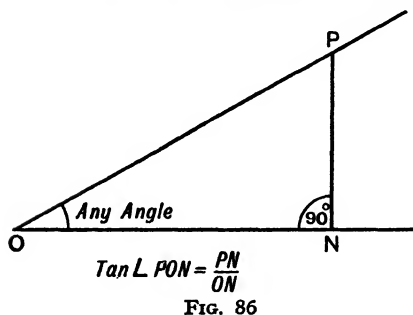

FIG. 86
**III. Finding the tangents of angles.**—Before introducing children to a table of tangents, it is wise to let them become better acquainted with the meaning of the term, by drawing. Each child draws an angle and chooses a point P on one of its arms. From P a perpendicular PN is drawn to the other arm, Fig. 86. The lengths of PN and ON are measured and the tangent of  $\hat{PON}$   $\frac{PN}{ON}$  is found. Each child can find tangents of several angles.